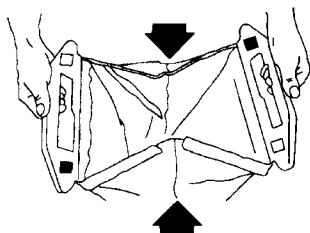

Figure 47
13. Close the rear of the bag by folding the sides in and pressing the interlocking rear handle halves together (Fig. 47).